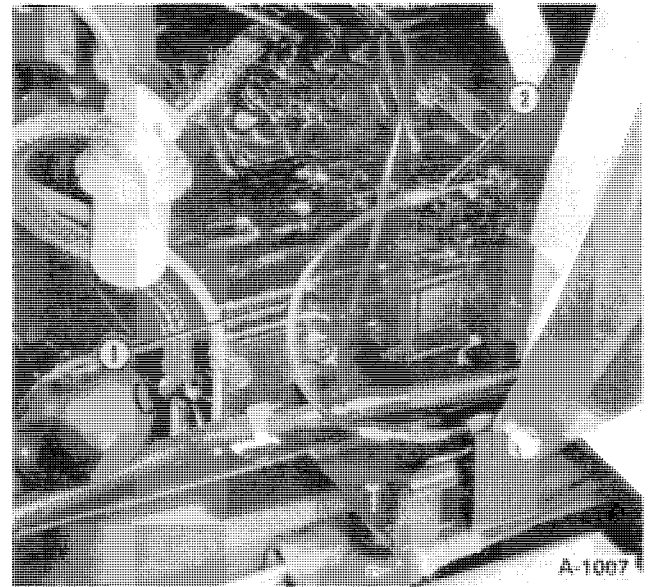

FIGURE 1-13
14. Remove the "E"-ring, 2, and remove the throttle control cable, 1, from the injection pump, Figure 1-13.